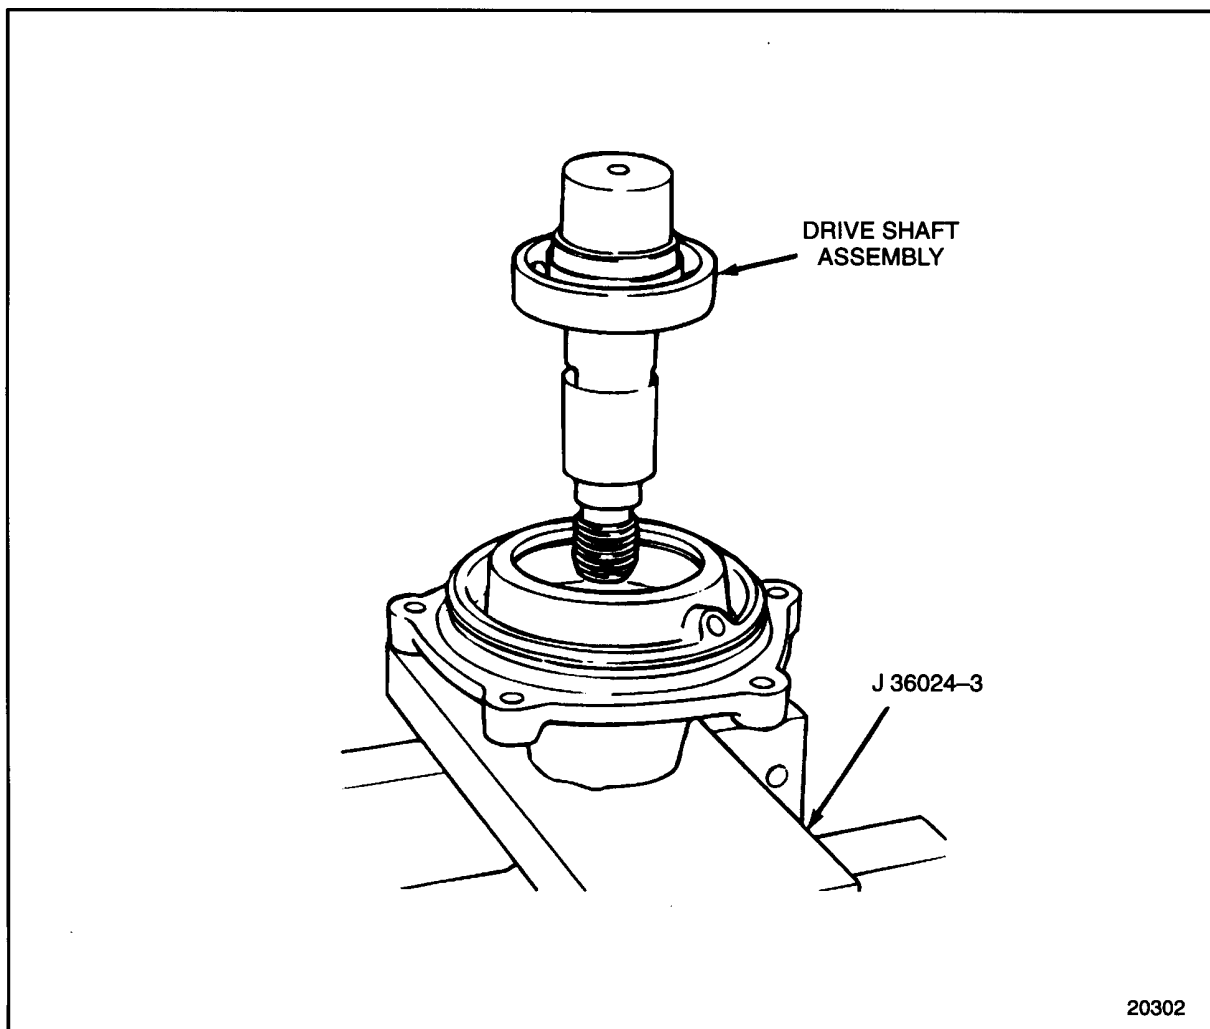

Figure 1-403 Accessory Driveshaft Preparation
9. Install the driveshaft to the housing. See Figure 1-403.